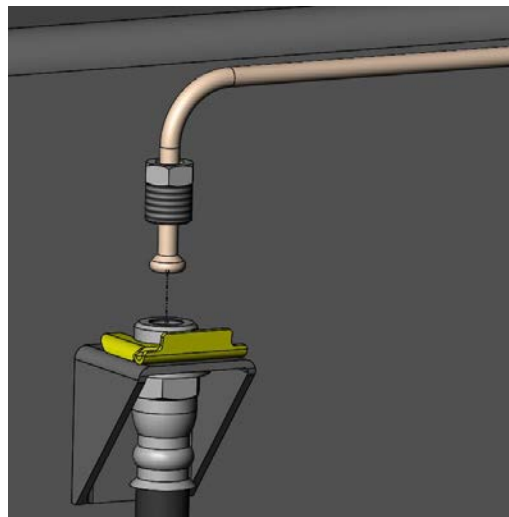

Figure 1 – Brake hose removal
2. Disconnect the brake hose from the hardline at the frame using a line wrench. Cap the hardline with the supplied rubber caps to avoid fluid dripping. Remove the clip retaining the brake hose and disengage the hose from the bracket. Refer to Figure 1 below for reference.